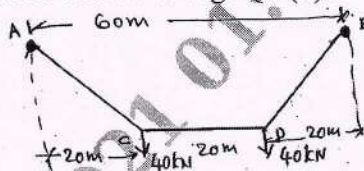

Fig. Q7 (b)
- b. A cable used to support two loads of 40 kN and 40 kN across a span of 60 m. The cable length is 62 m. The loads acting at 20 m from left and right support. Find the tension in various segments of the cable shown in Fig. Q7 (b). (08 Marks)